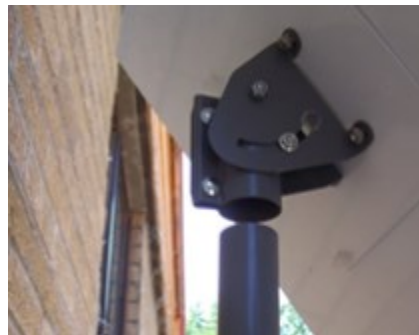

Figure 30: Pole collar
1. Slide the pole collar of the azimuth elevation bracket over the end of the pole (see Figure 30).